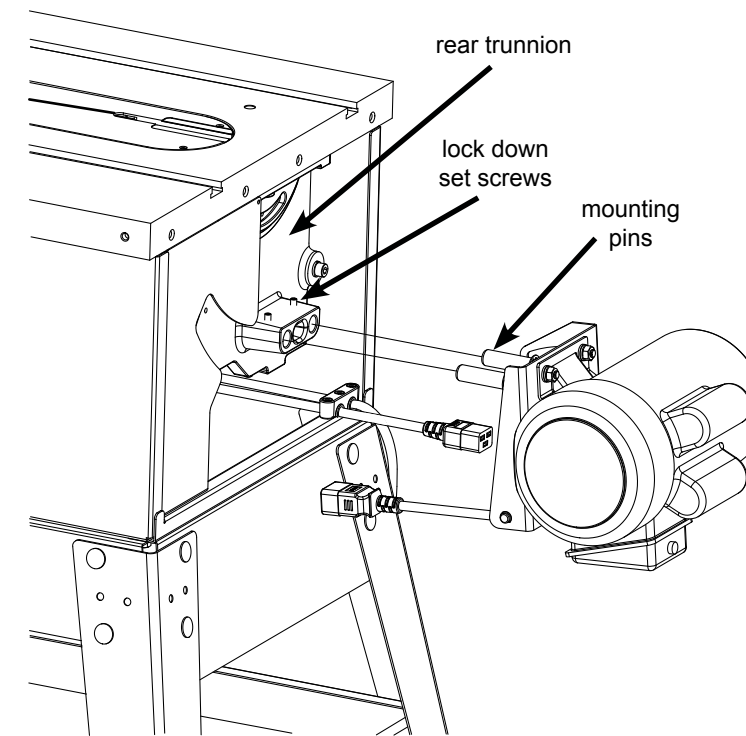

Fig. 17
17. Locate the motor, the motor belt, the belt guard, and hardware pack #2. All of the hardware needed to install the motor and belt guard is located in the area with the green background on hardware pack #2. Attach the motor to the saw by sliding the motor mounting pins into the corresponding holes in the rear trunnion (see Fig. 17). Make sure the pins slide all the way into the holes. Use the 3 mm hex key included with hardware pack #2 to tighten the two lock down set screws to hold the motor in place.